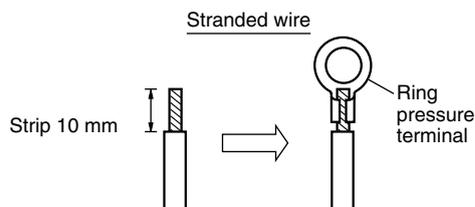

Fig. 5-5
- (1) Cut the wire end with cutting pliers, then strip the insulation to expose the stranded wire about 10 mm and tightly twist the wire ends. (Fig. 5-5)